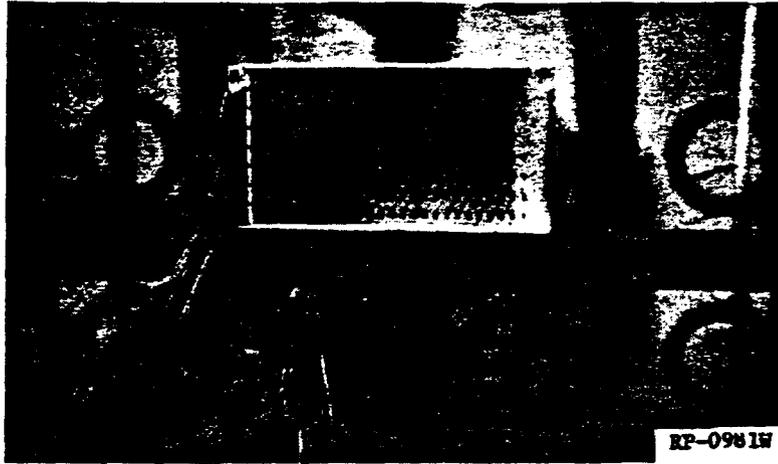
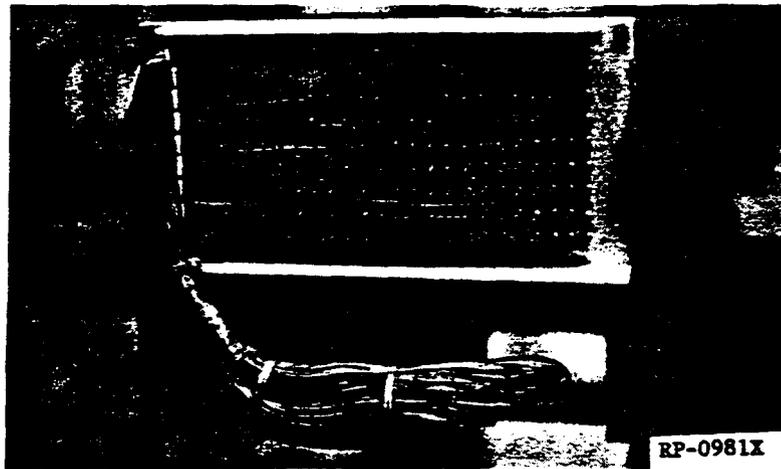

FIG. 4 CABLE LEADS DRESSED UP AND DOWN
FIG. 5 CABLE LEADS SPLIT/ROW AND
5.23 After the first pair of leads has been connected to their respective terminals, dress that pair of leads into the fanning strip slot. If the cable pair is either 24 or 26 gauge wire, fan the pair of wires between the two rows of terminals being utilized and connect and dress one lead up and the other lead of the pair down. See Figure 4. This method eliminates unnecessary pair splitting. However, this cannot be done with 22 gauge wire, because it will cause excessive congestion in the fanning strip slot area. Therefore, each pair of leads must be split beyond the fanning strip and fed into separate slots on a per row basis. See Figure 5.
6.11 Take up the excess slack below the taped area and form it into a tight "U" shaped form. See Figure 5. Then place two bands of twine or nylon cable ties around the form to retain the shape.